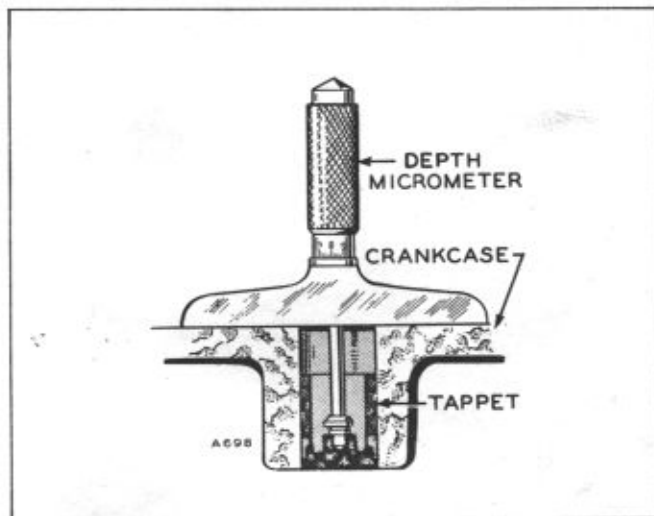

Figure 30. Depth Micrometer
1. Install pump tappet in its recess and position flywheel on the port closing mark (PC) of the compression stroke.
2. Using a depth micrometer, measure the distance from the pump mounting pad on the crankcase to the tappet center (Fig. 30).